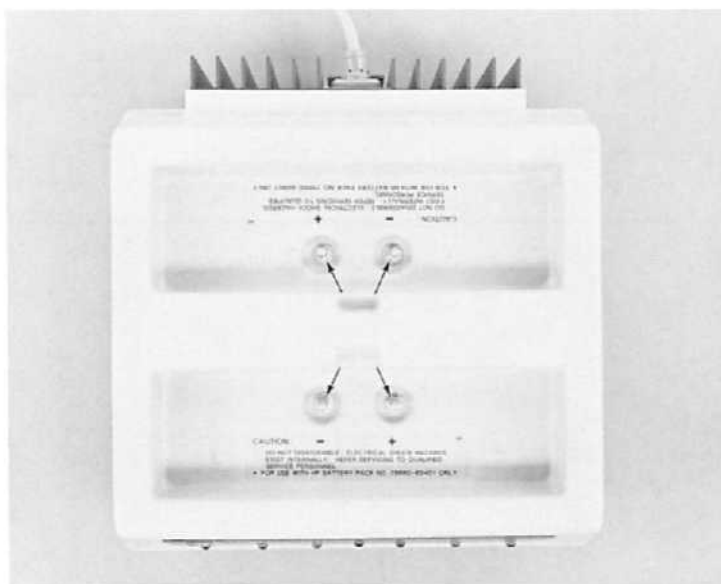

Figure 7-7. Top Cover Removal.
1. Top cover removal. See Figure 7-7.